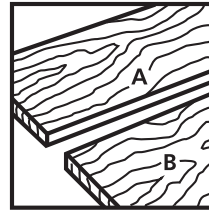

Figure 31
- Align two boards in their finished position and mark them "A" and "B". See Figure 31.